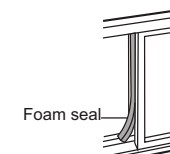

Fig.13
5. Trim the last foam seal to the proper length to seal the open gap between the two window sashes. Fig.13.